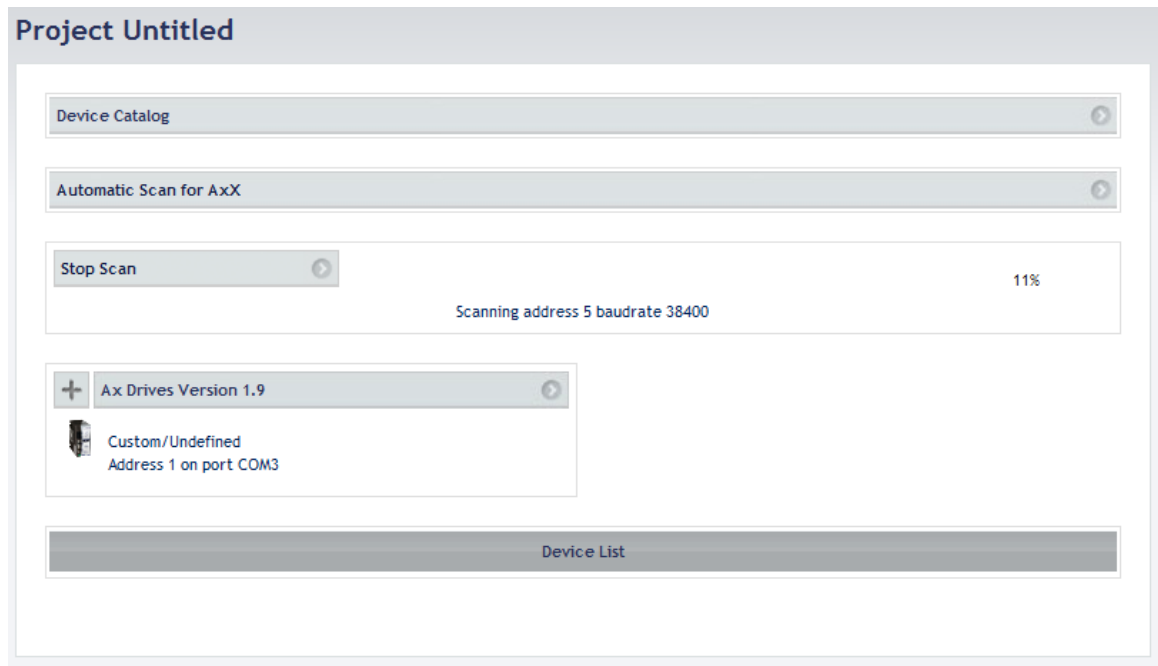

Figure 14 – Scanning result for AxX
- As soon as one device is found out, it will be listed under the “Automatic Scan” bar in Figure 14.